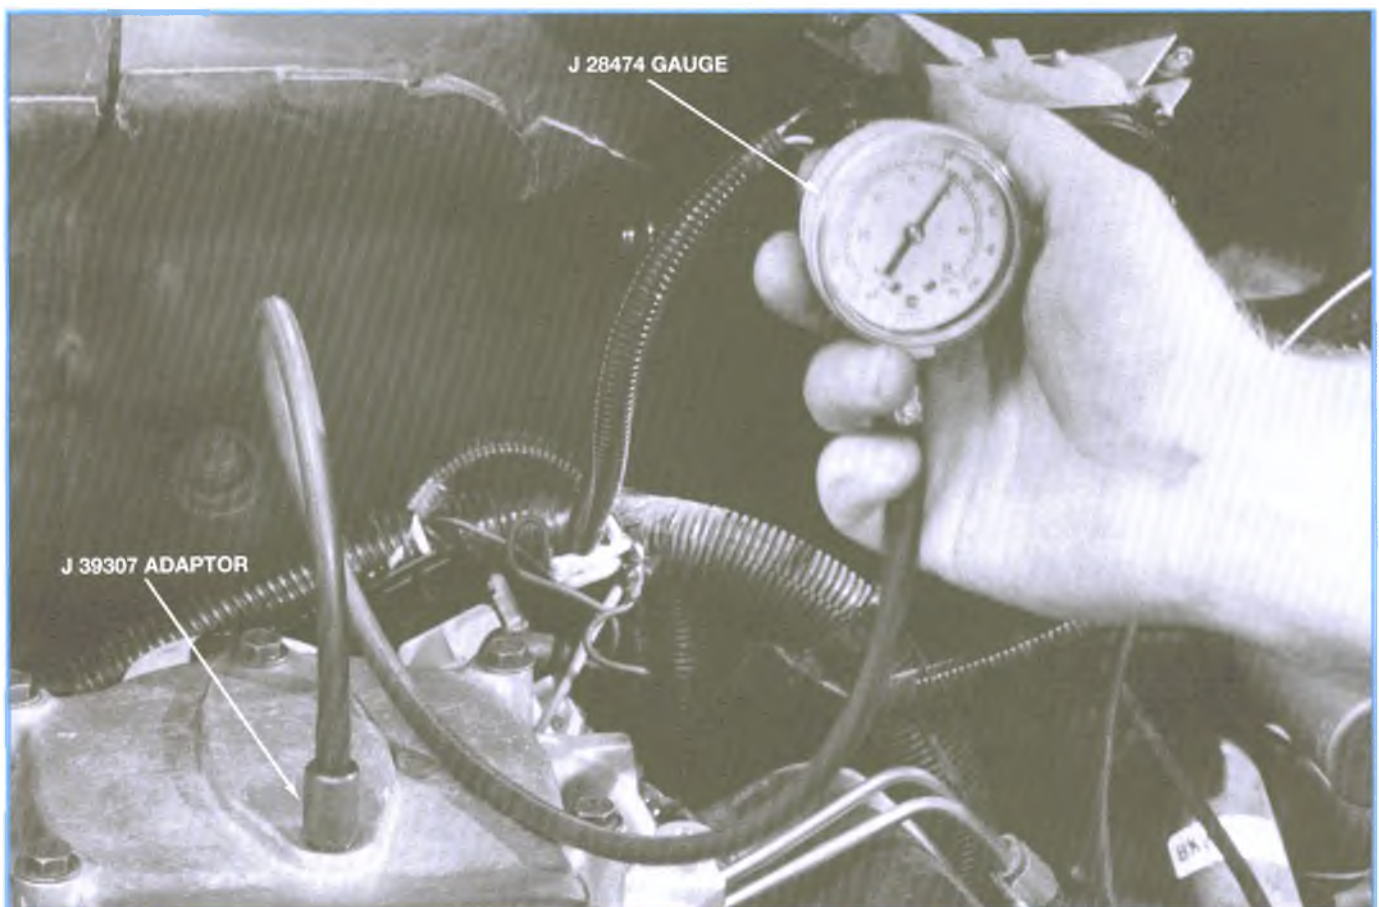

Figure 6-15, Boost Gauge Installation
2. Remove the front center mounting bolt of the air inlet duct and replace it with the special boost gauge (see Figure 6-15).